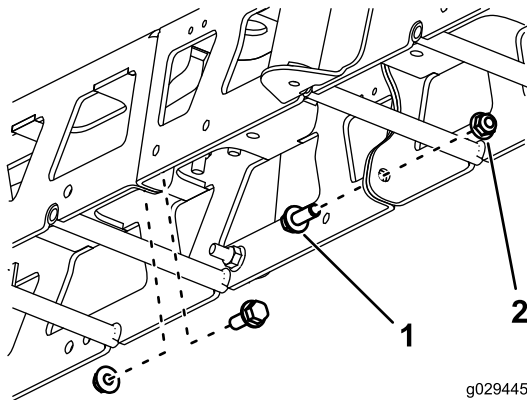

Figure 10
1. Remove and retain the 2 bolts and 2 nuts and separate the 2 halves of the center boom (Figure 10).